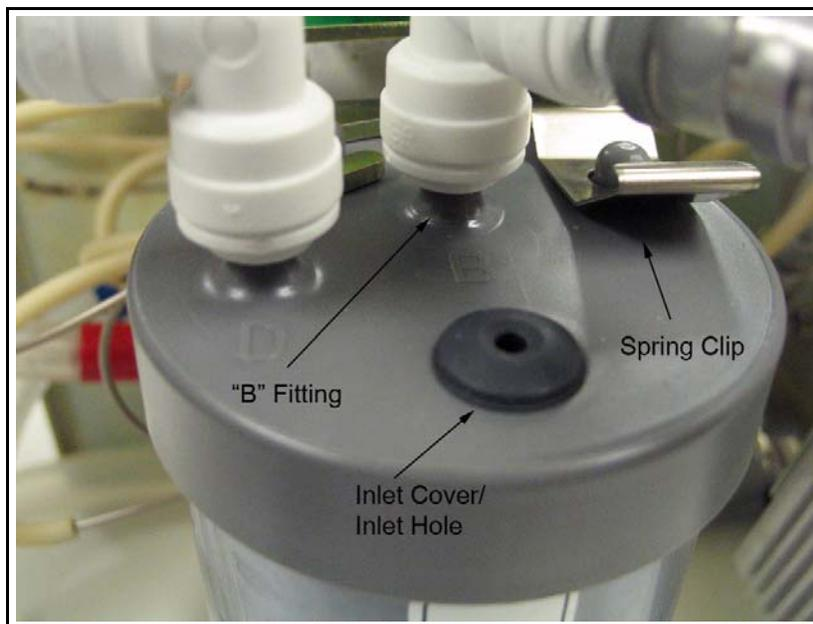

Figure 8: Filling the DI Water Cartridge
4. Lift the spring clip (see Figure 8 on page 69) at the top of the DI water cartridge, and rotate the cartridge clockwise (as viewed from the top) so it slides out of the retaining hooks.